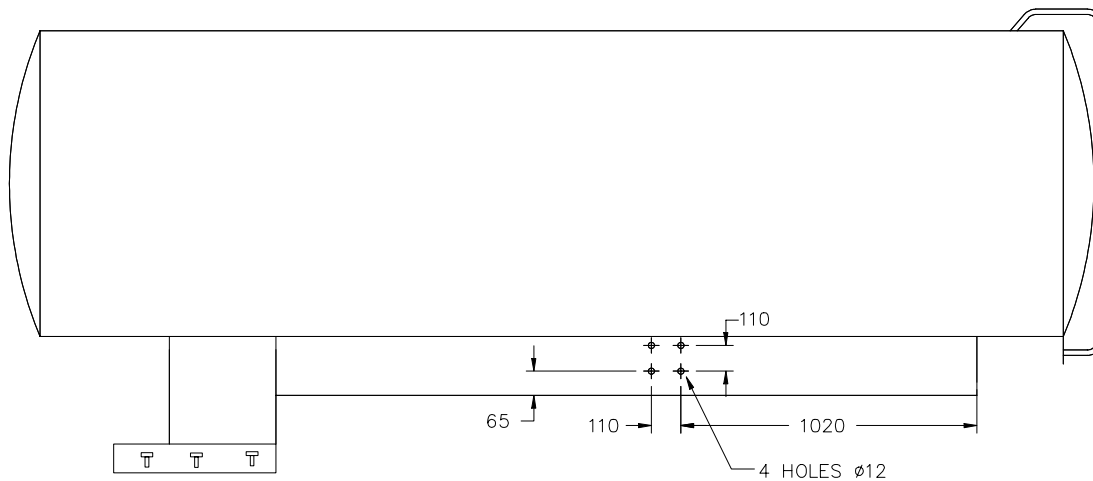

Figure 2 – Water Tanker Subframe Compartment 3 Support Bracket Location
- t. Drill four 12 mm holes in the left hand subframe for compartment three support bracket (Figure 2).